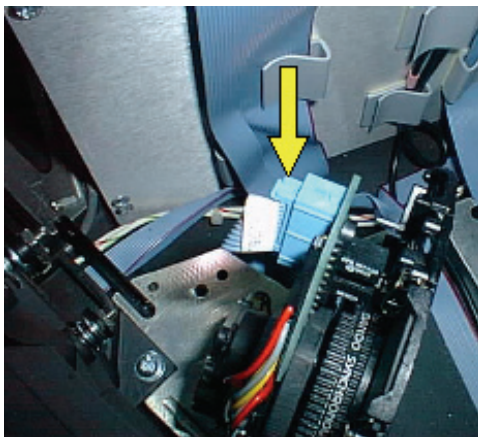

Figure 99 Excitation filter wheel cable
3. Unplug the excitation filter wheel cable, as shown in Figure 99.